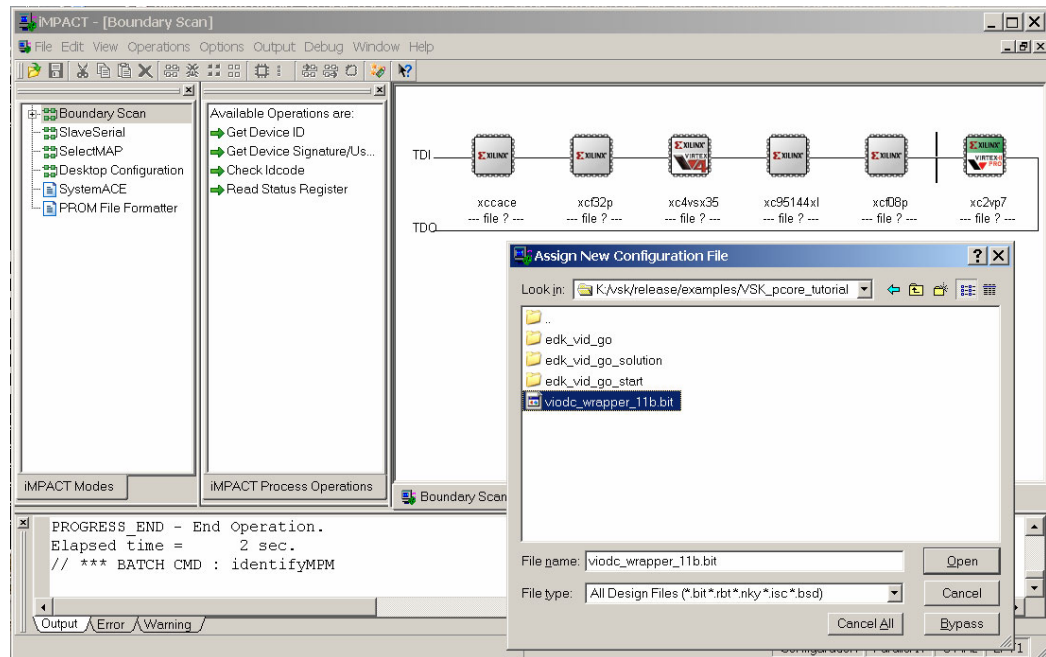

Figure 6-12: iMPACT Window
1. Open a command window in Windows XP and type `impact`. This brings up the iMPACT GUI (Figure 6-12).